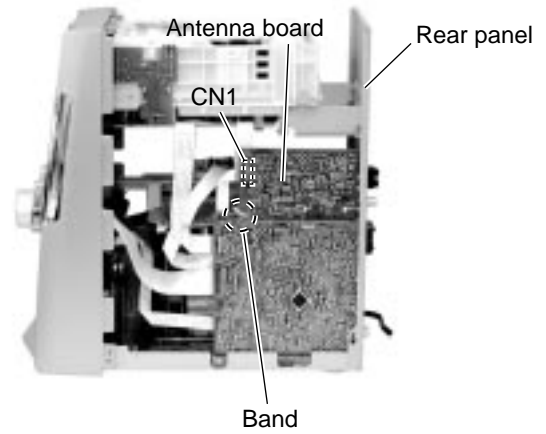

Fig.10
■ Removing the antenna board (See Fig.10, 11)